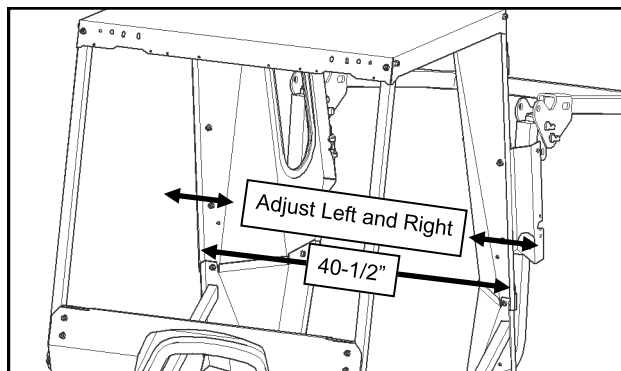

Fig. 16.1 (Measure Rear Legs Left and Right)
- 16.1** Adjust the bottom of the rear legs side to side to get the outer surfaces approximately lined up with the sides of the black plastic housings (if equipped) on top of the rear fender. See figure 16.1. The outer flanges of the legs should be about 40-1/2" apart, outside to outside.